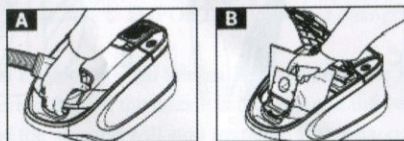

Fig. 6.1
Rotate hose to the side, lift bag lid latch and open bag lid, Fig 6.1, (A). Carefully pull out the used bag, (B).